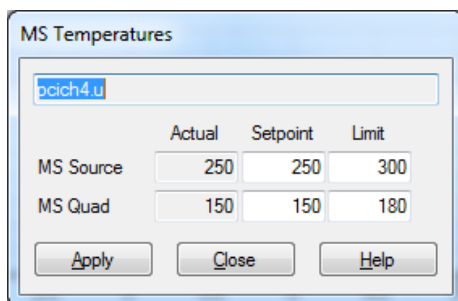

Figure 37 MS temperatures dialog
- 1 In **Instrument Control** view, select **MS Temperatures** from the **Instrument** menu. (See Figure 37.)